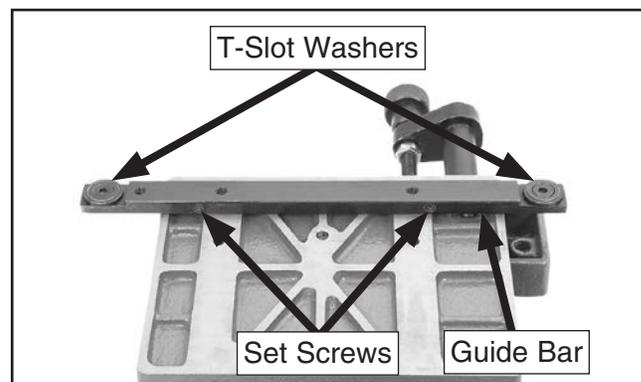

Figure 15. Guide bar adjustment components.
- Remove tenoning jig from table saw and turn it upside down, as shown in **Figure 15**.
- Evenly adjust set screws shown in **Figure 15** the same amount so that they protrude from guide bar enough to take up side-to-side play described in **Step 2**.
- Make sure (2) pre-installed $\frac{1}{4}$ -20 x $\frac{3}{8}$ " flat head cap screws that secure T-slot washers (see **Figure 15**) are tight.